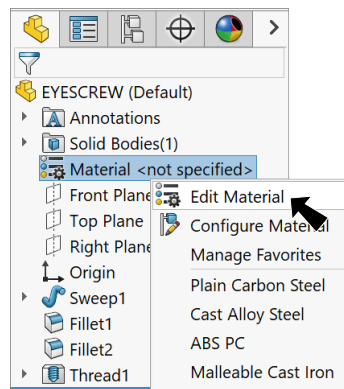

Fig. 15
Step 1. **Right click Material**  in the Feature Manager and click **Edit Material**, **Fig. 15**.